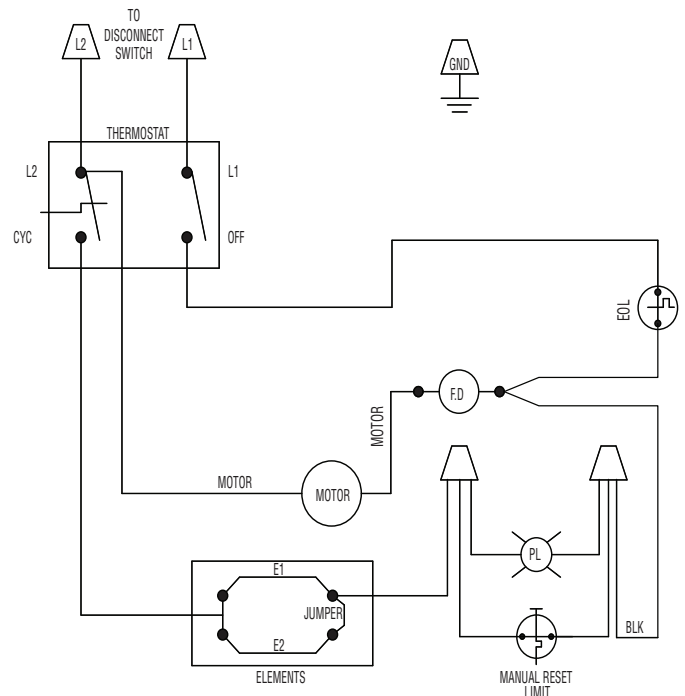

Figure 3: Wiring Diagram
- Insert power supply cable through cable clamp, allowing at least 6" (152 mm) of leads to extend inside the back box. Connect the blue lead wires of disconnect switch to the supply wire leads using wire connectors (see Figure 3, Wiring Diagram).
2. With the top of the grille assembly leaning forward, supported by the first notch in control shelf, extend the lead wires from the back of the top of the heater grille assembly to the (2) power wires of the disconnect switch assembly and connect according to Wiring Diagram shown in Figure 3 (page 3)